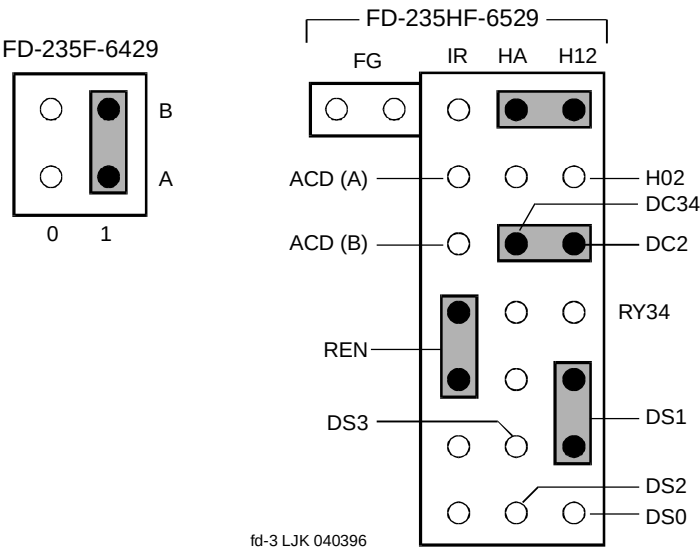
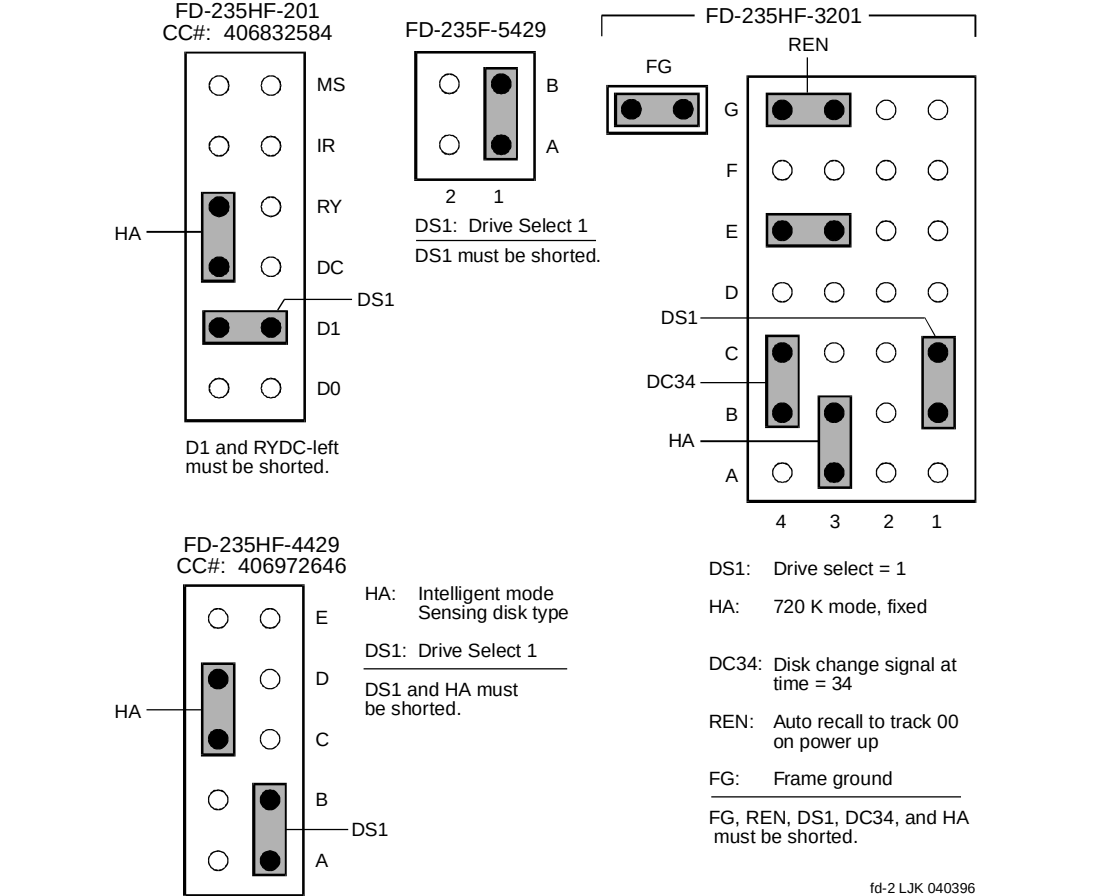

Figure 7-11. Diskette Drive Jumper Connections (6429 and 6529)
Figure 7-12. Diskette Drive Jumper Connections (201, 3201, 4429, and 5429)
3. Verify that the jumpers are set as shown in Figure 7-11 and Figure 7-12.